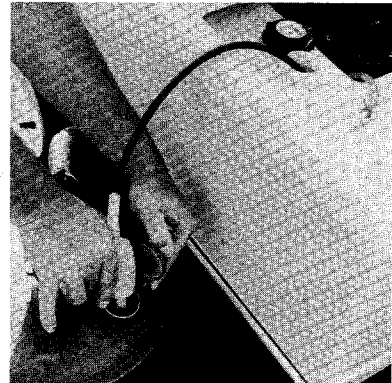

Figure 2-11
2. Using a siphon with a suction device (Figure 2-11), drain all of the gas out of the tank into an approved gasoline container.